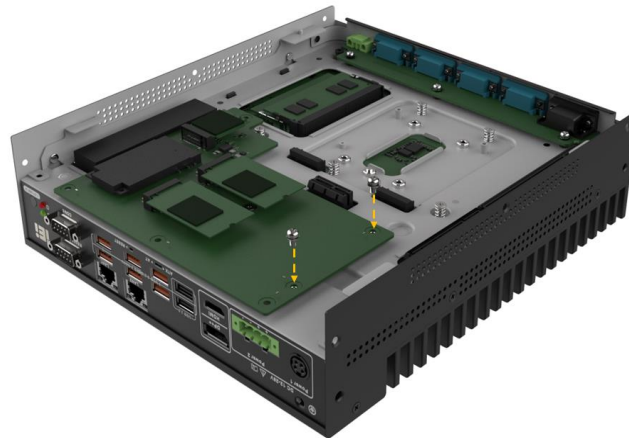

Figure 3-3: Securing TXCBP-XM81-2A
Step 2: Secure the module with 2 screws (Figure 3-3).